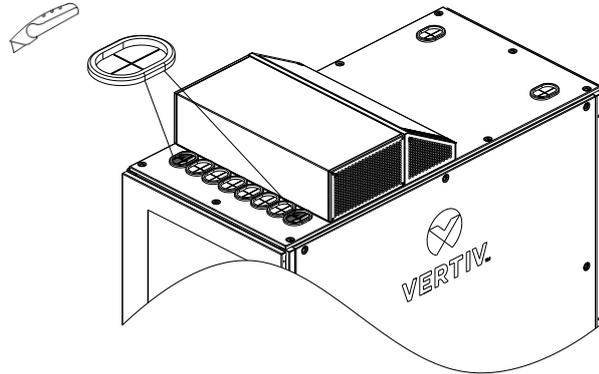

Figure 2-26 Open the guard rings
1)The air duct is installed at the rear door. Figure 2-26 shows the left side installation of the air duct. The air duct supports the right-side installation.